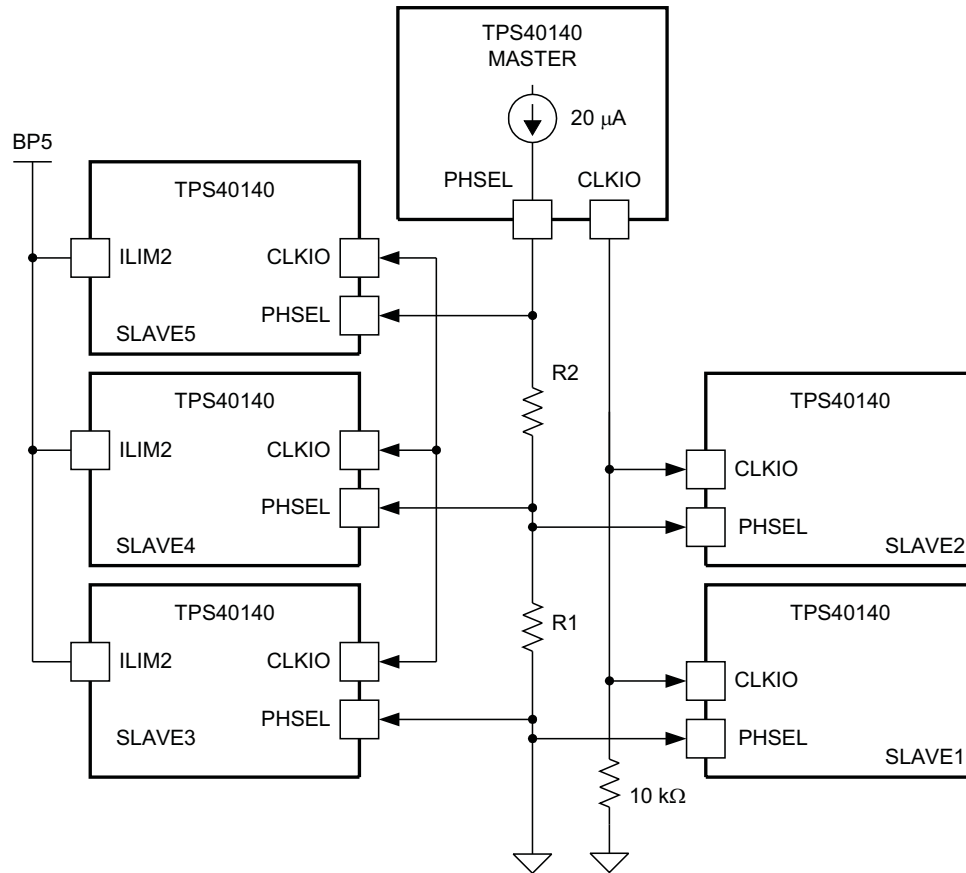
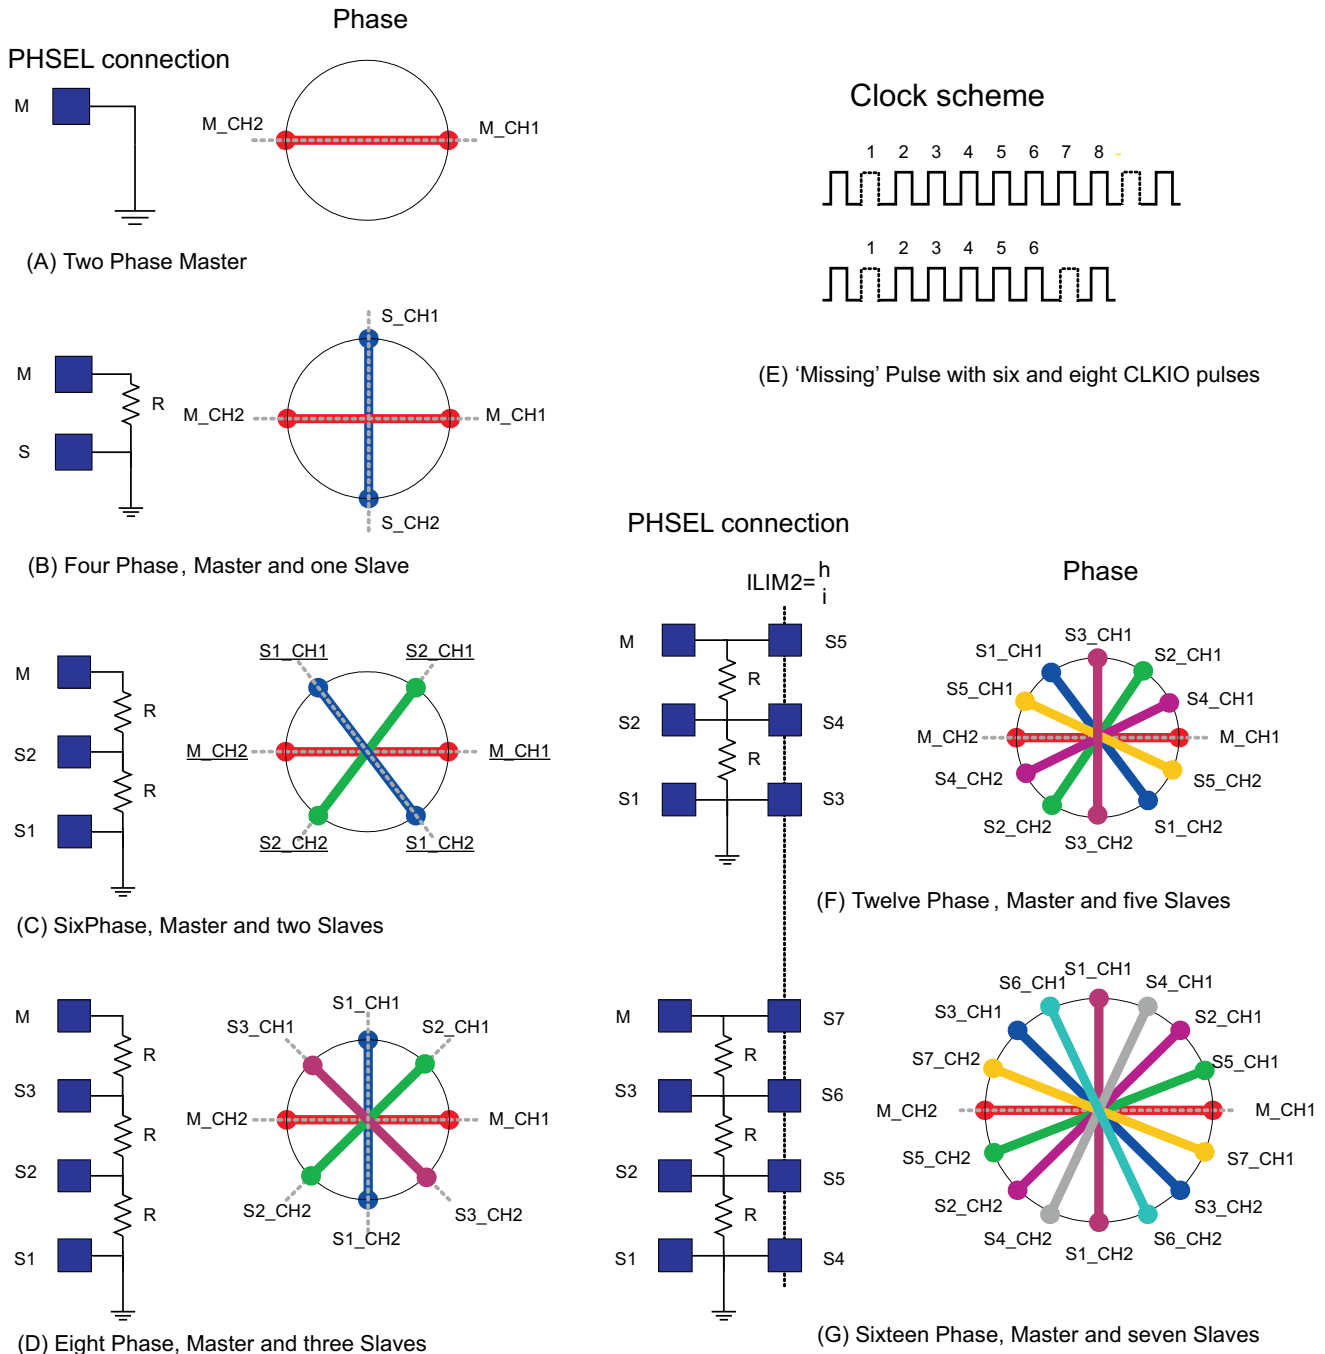

Figure 5-18. Master Controller and Five Slave Controllers, 12-Phases
Figure 5-20. Clock Phasing Summary
To further increase the total current capability to twelve phases, or to increase the number of outputs, five slave controllers can be added as shown in Figure 5-18
If four slaves are desired, just delete one of the slaves from Figure 5-18. The interleaving is not perfect because there is a 30° between the master and three slaves. The deleted slave causes 60° between the two adjacent slaves. See Figure 5-20 for phasing details.
Figure 5-20 is a summary of the master and slave clock phasing. The master and the slaves can be selected to be a multi-phase, single output configuration and/or several independent output voltage rails, independent of the clocking.
The solid square boxes in Figure 5-20 represent the PHSEL pin of the master (M) controller or a numbered slave controller (S1-S7). The labels on the spokes of the wheels indicate a master Channel 1 and master Channel 2 (M_CH1 and M_CH2) and numbered slaves Channel 1 and slave Channel 2 (Sn_CH1 and Sn_CH2). The Channel 1 and Channel 2 of a given master or slave is always 180° out of phase.
The 3-phase system could also be configured with 1 channel of the master and 2 channels of the slave. Referring to part (B) above, the 3 phases could be master CH1 or master CH2 and slave CH1 and slave CH2. In either of these configurations there is 90° between two of the channels and 180° between the other channel. The unused channel could be another independent output voltage whose clocking would occupy the phase not used in the 3-phase system. This philosophy can be used for any number of phases not shown in Figure 5-20, *Clock Phasing Summary*.